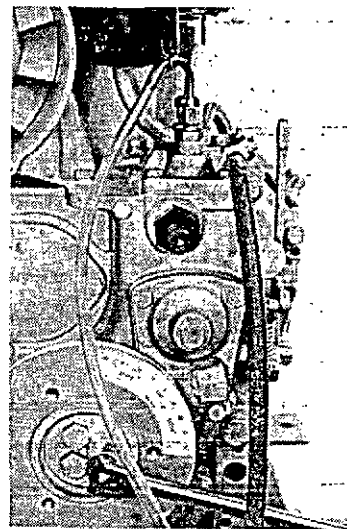

Figure 10
13. While maintaining a free flow of fuel from the drip tube, gently rotate the crankshaft clockwise until this flow of fuel just comes to a stop. This is port closure, which is the point at which fuel injection begins. See Figure 10.